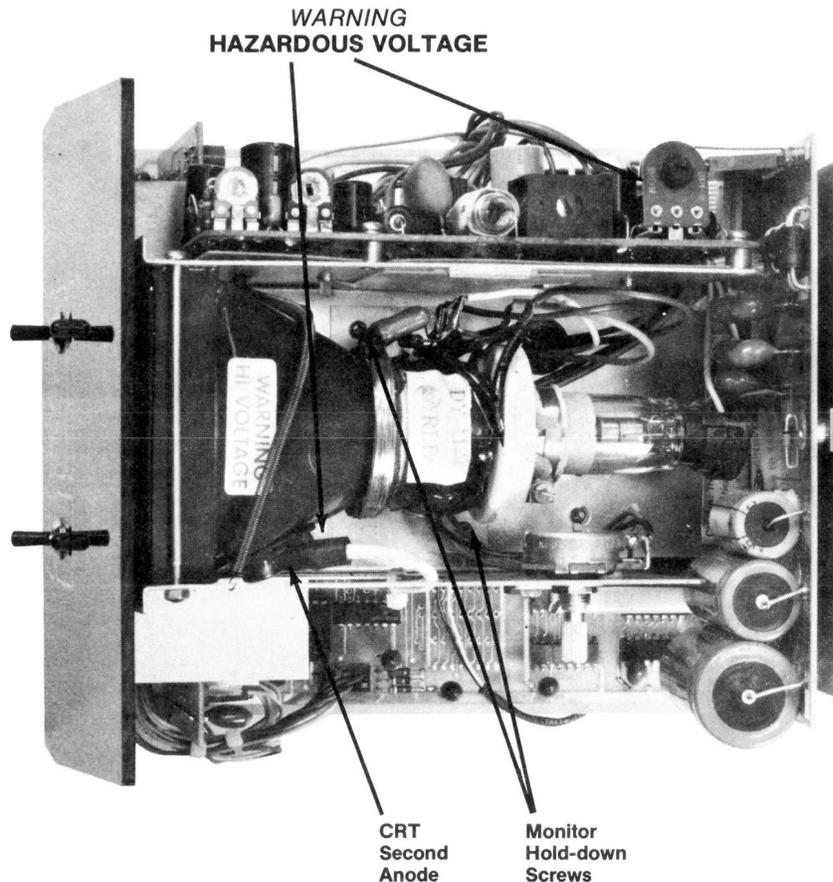

Figure 8, Top View of Chassis
CAUTION: Hazardous voltages may be present at or near the second anode of the cathode ray tube. (See Figure 8)
- g) Loosen the two display assembly hold-down screws (#4-40) on each side of the CRT. (See Figure 8)